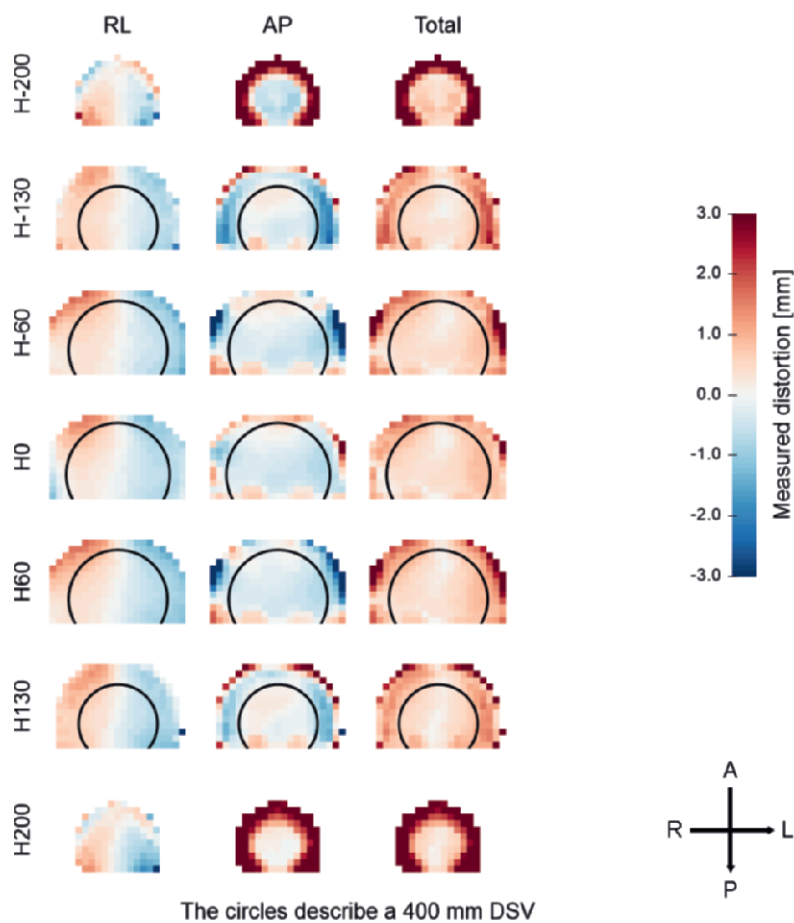

Figure 6: An example color map of the measured distortions.
- A figure showing the distortions as a color map (see figure 6)